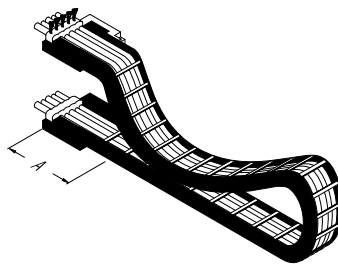

Fig. 5
- Only at the driver end in the case of long, sliding energy chains (→ Fig.5).